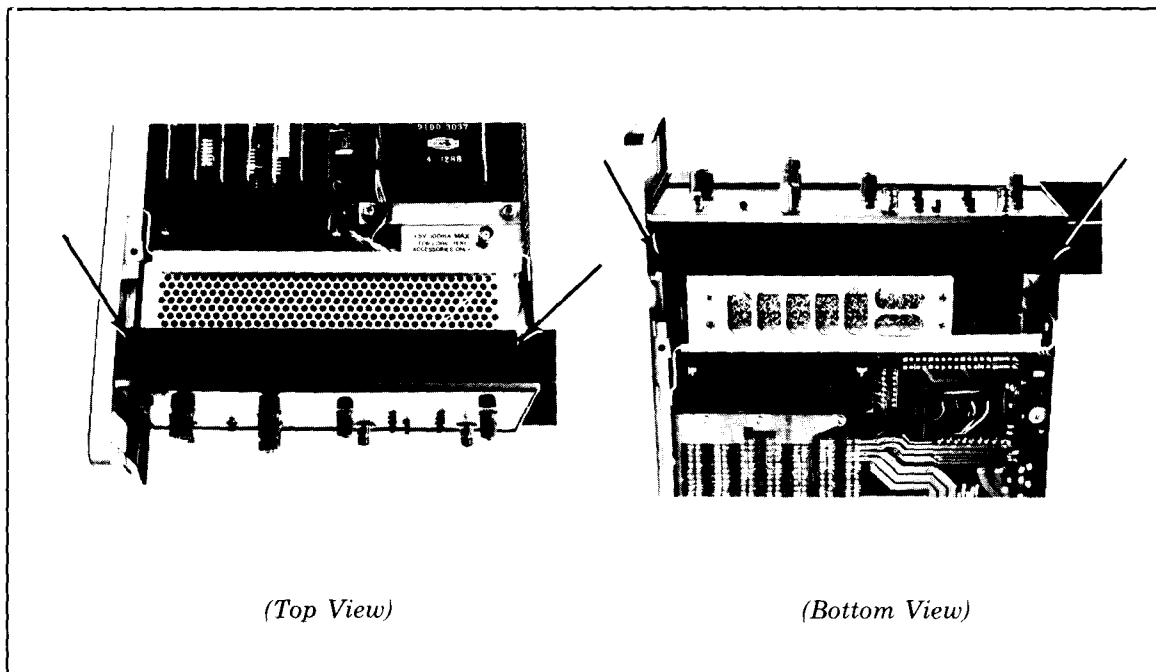

Figure 3-7. Location of Display Assembly Screws
- c. Remove the 4 screws holding in display assembly (see Figure 3-7). Remove display assembly from mainframe and disconnect its power cable at bulkhead.